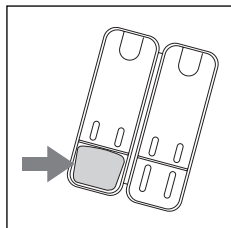

fig. 3
- Open the chlorine filter holder by pressing the parts marked “PUSH” and carefully place the filter in the holder as shown in fig. 3.